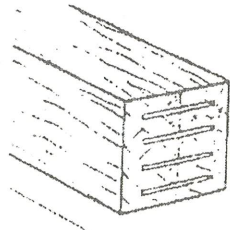

Fig.34
4. Rest fence height until line of cut indicator matches the next slot mark and follow step four. Repeat for all marks (Fig.34).